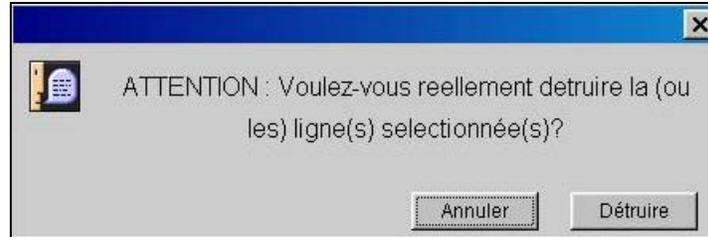

Figure 6: Deleting a part line
- Select the part line(s) to be deleted. Click on the **Delete** button, a dialogue box appears (figure 6).